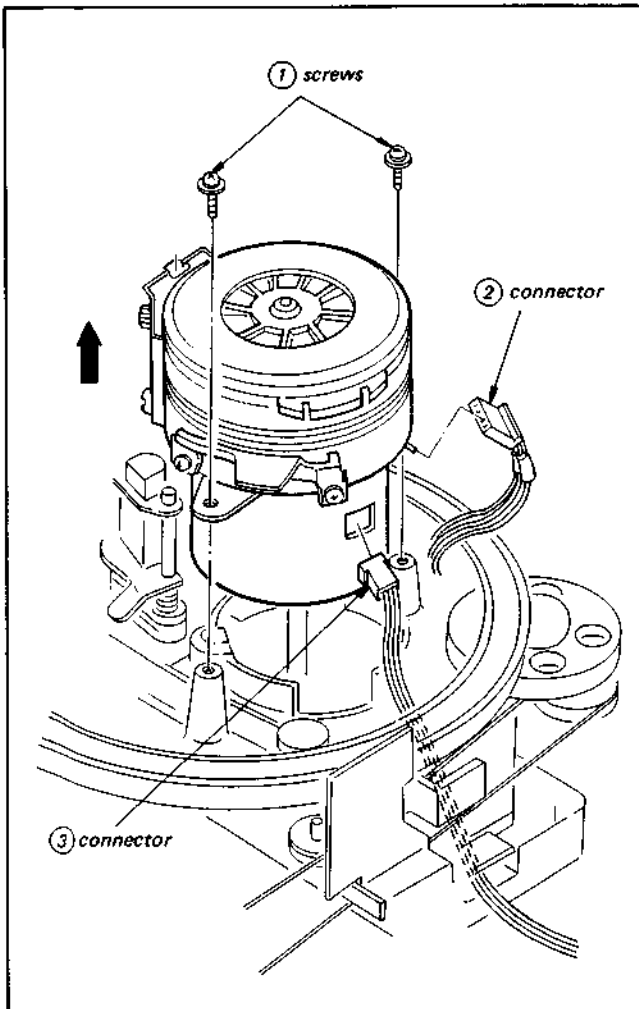

Fig. 3-4. Replacement of drum assembly (2)
3. Remove two screws (1) and connectors (2) and (3) shown in Fig. 3-4. The drum assembly can then be removed, by pulling it up.